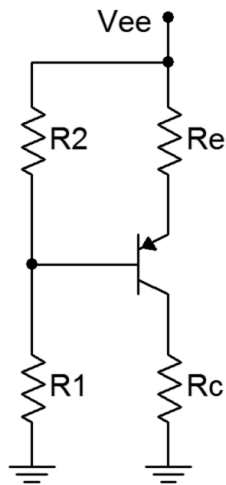

Figure 1
1. Consider the circuit of Figure 1 using $V_{ee} = 10$ volts, $R_1 = 10\text{ k}\Omega$, $R_2 = 3.3\text{ k}\Omega$, $R_e = 4.7\text{ k}\Omega$ and $R_c = 5.6\text{ k}\Omega$. Using the approximation of a lightly loaded “stiff” voltage divider, determine the theoretical base, emitter and collector voltages, and record them in Table 1 (Theory).
2. Build the circuit of Figure 1 using $V_{ee} = 10$ volts, $R_1 = 10\text{ k}\Omega$, $R_2 = 3.3\text{ k}\Omega$, $R_e = 4.7\text{ k}\Omega$ and $R_c = 5.6\text{ k}\Omega$. Measure the base, emitter and collector voltages and record them in the first row of Table 1 (Experimental).